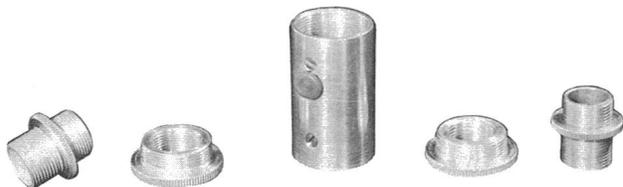

Figure 60 - GB-1014 Microphone Adapter Kit
4.03 The GB-1014 microphone adapter kit is used in the GB-1060, GB-1064, and GB-1065 assemblies. It measures 1" in diameter by 2" in length. It contains two 1SM1 subminiature micro-switches with an actuator button. These micro-switches are both single pole double throw contacts. Either end of the kit adapts to 5/8-24 or 5/8-27 thread, female or male (Figure 60).